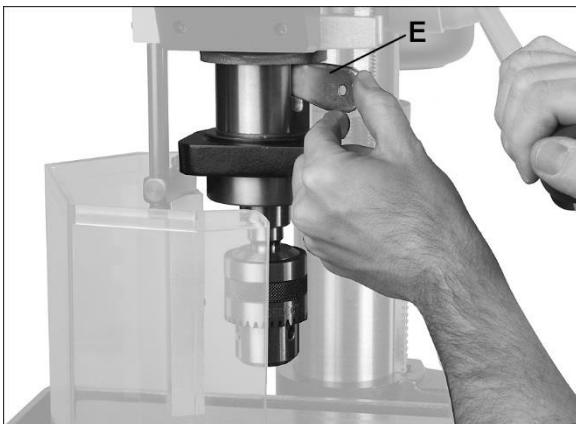

Figure 6-3: drift key insertion
- Place a piece of scrap wood on table, and lower quill (Figure 6-3) using feed handles.
- Insert drift key (E, Figure 6-3) into aligned slots and tap lightly. The chuck and arbor assembly should fall from the spindle.